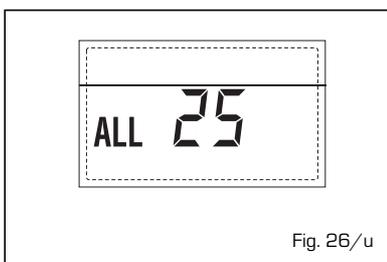

Fig. 26/u
- **ANOMALIA GUASTO SONDA SOLARE S3 "ALL 26"** (fig. 26/v)